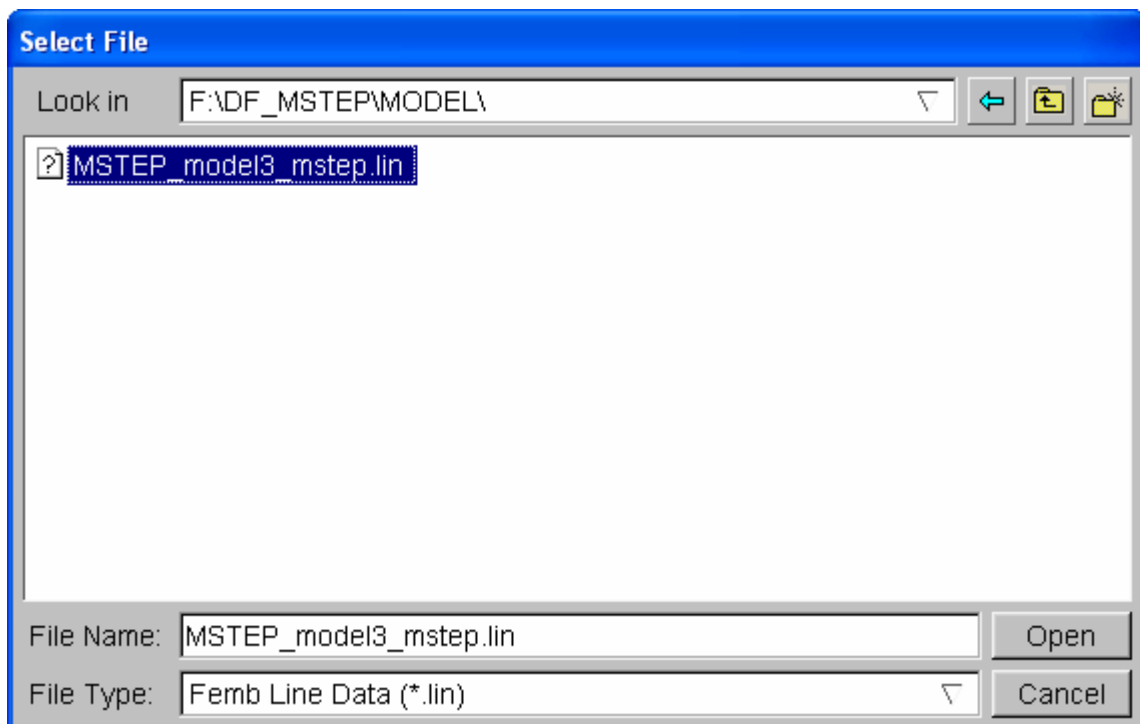

Figure 4.51: Open file window
- 2) Select the file of MSTEP_model3_mstep.lin, click “Open”, and the sheet blank outline is read in, as shown in the following figures 4.51~4.52.